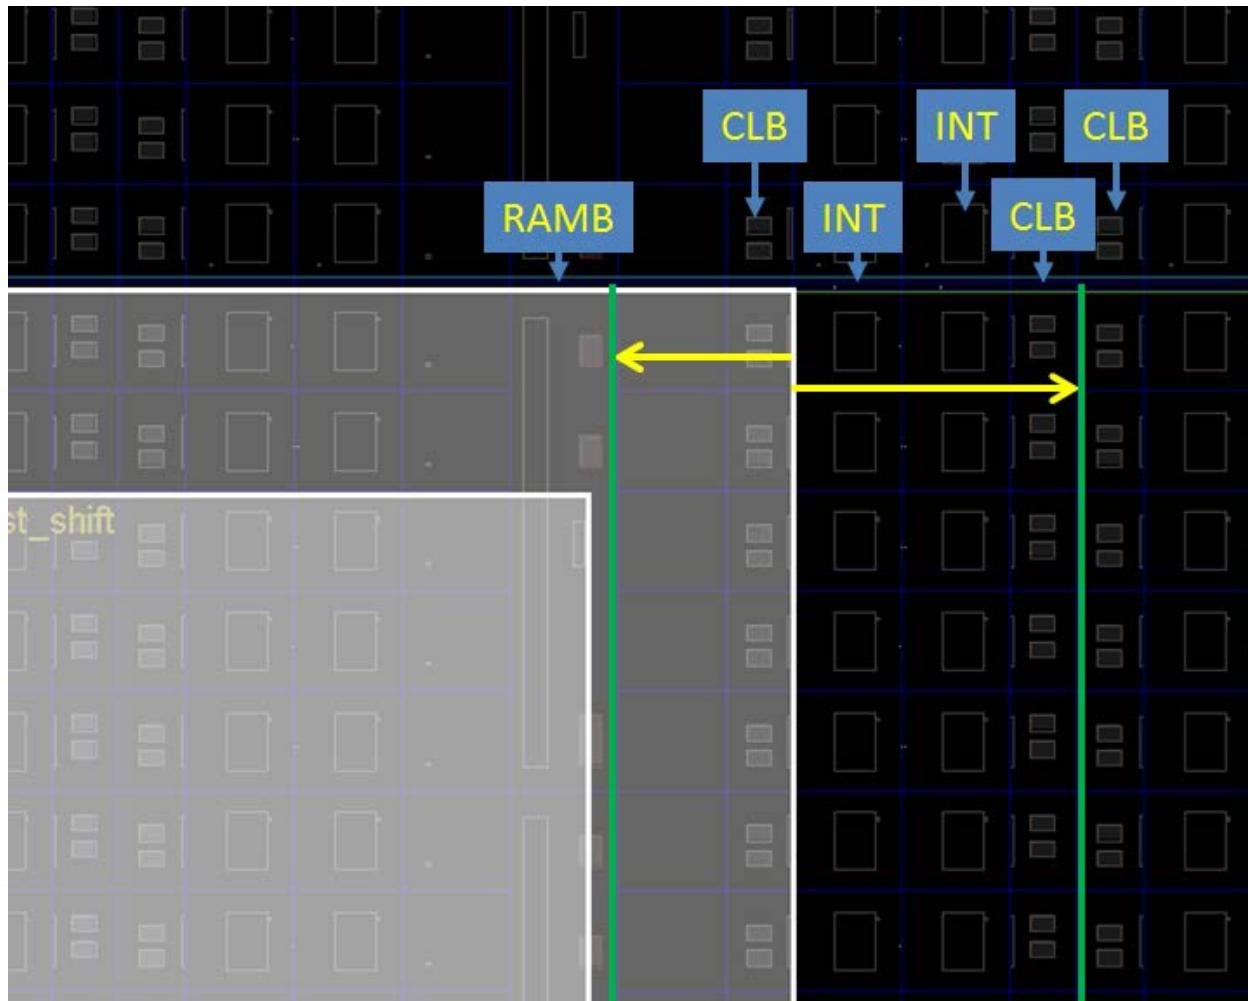

Figure 5: Adjusting the Edges of a Reconfigurable Pblock
6. To manually avoid this DRC warning, zoom into the upper or lower corner on the reported edge of `inst_shift` (or `inst_count`, if `inst_shift` did not report an issue) to see where the violation has occurred. Move this edge left or right one column, as shown by the yellow arrows in Figure 5, so it lands between two resource types (CLB-CLB or CLB-RAMB, for example) instead landing between CLB-INT or BRAM-INT.